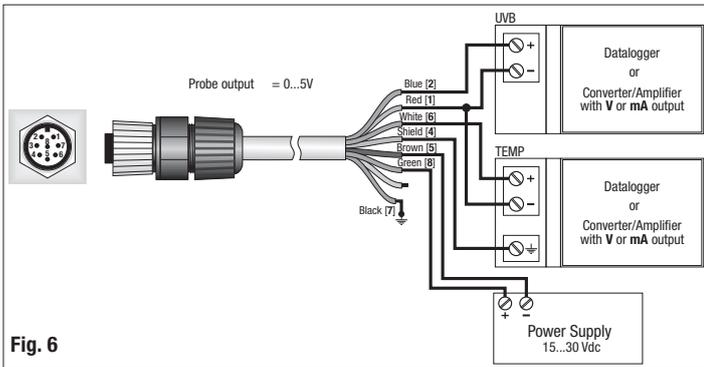

Fig. 6
N.B. The input load resistance of the data acquisition system must be greater than $10k\Omega$. The connection scheme is shown in figure 6.
The UV-resistant cable (supplied on request) has 5 wires plus the braid (screen); the colour code is shown in fig. 6.